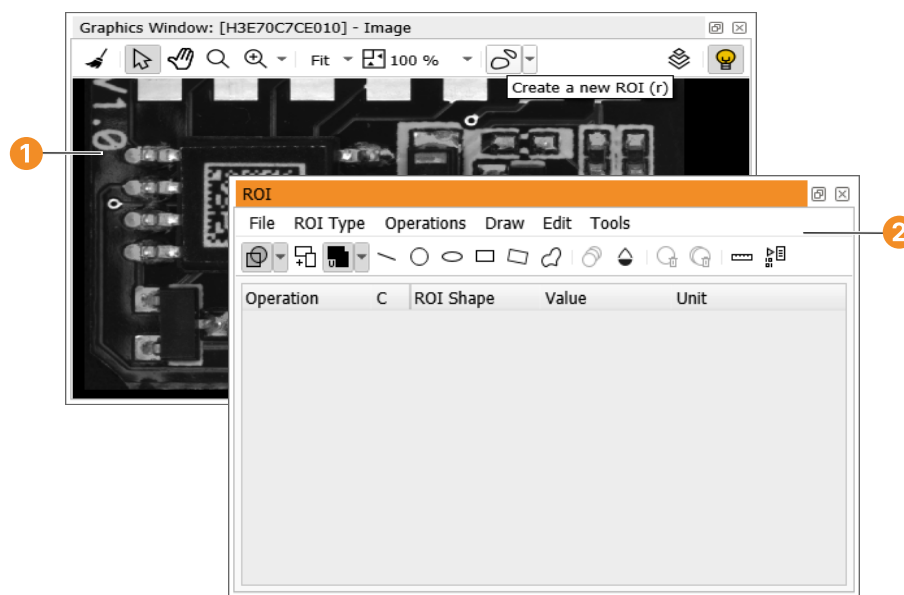

Figure 6.74: Base image for the creation of an ROI.
As an introductory example, the image shown in figure 6.74 ① shall be used as the base image for a completeness check application. To determine the location and the alignment of the chip in subsequent images, parts of its imprint will be used as a landmark. Therefore, an ROI has to be created. It would be cumbersome to generate an ROI based on written-down pixel coordinates. Instead, it is much easier to draw a figure right into the image and let HDevelop generate the corresponding instructions.
This will open the dialog shown in figure 6.74 ② which will act as a tool box for your new figure.